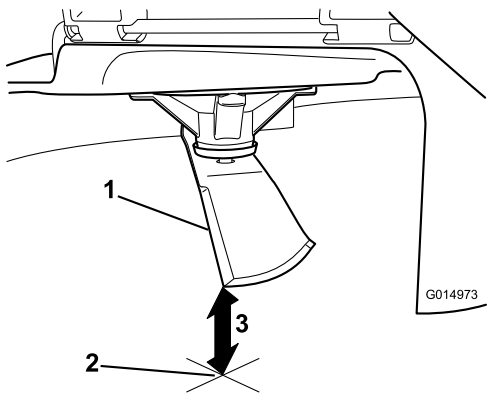

**Figure 59**
4. Rotate the same blade 180 degrees so that the opposing cutting edge is now in the same position (Figure 59).